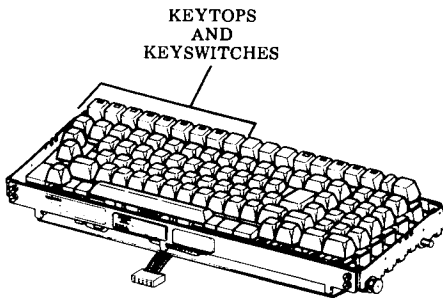

Fig. 12—Keyswitch Identification
- (a) Remove the keytops shown in Fig. 12.
- (b) Remove the keyswitches shown in Fig. 12.